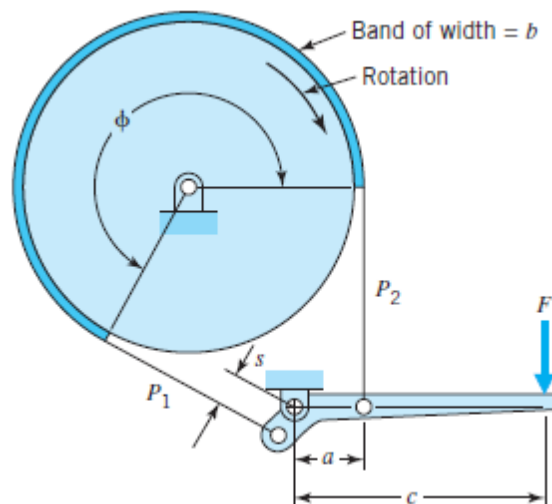

Fig.3 Differential band brake (ref: Fundamentals of Machine Component Design, 5th Edition, Wiley.)
4. A differential band brake similar to the one shown in Fig.3 is being considered for use with a hoist drum. With the hoist operating at rated load, a brake torque of 4000 N.m is required to hold the drum from slipping. The brake is to be designed to slip at a 15 percent overload. Available space limits the cast-iron brake drum diameter to 650 mm, with brake band contact extending over an angle of 250° . Design values for the brake lining selected are $f = 0.40$, $p_{\max} = 1.1 \text{ MPa}$.
- If distance a (Fig.3) is 120 mm, what value of distance s would enable the brake to be operated with a force F of 200 N at the end of a lever of length $c = 650 \text{ mm}$?